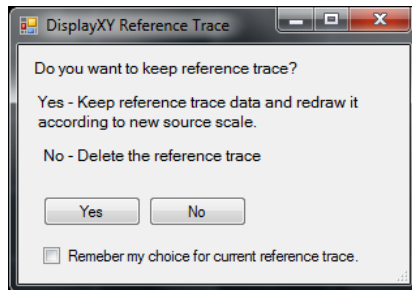

Figure 2-101 DisplayXY Reference Trace dialog
- 5 The DisplayXY Reference Trace dialog will be displayed as shown in Figure 2-101 when you change the Display XY mode sources with the reference trace enabled.